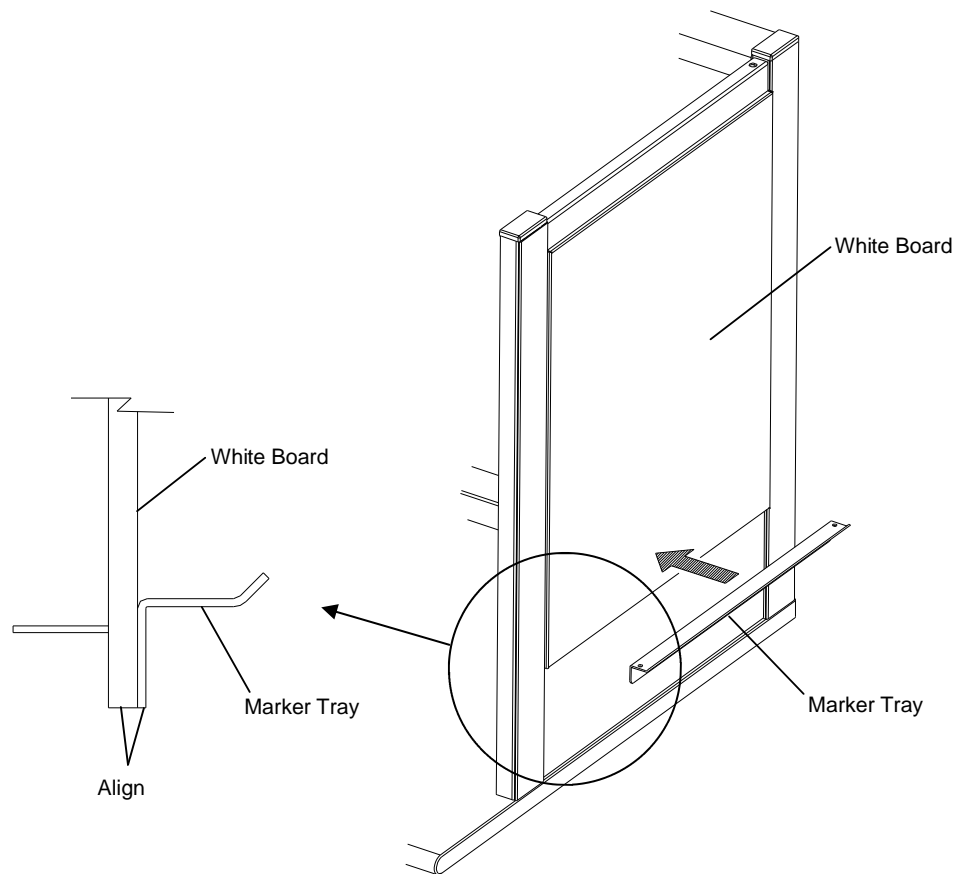

Figure 1.
2. Carefully align the bottom of the Marker Tray with the bottom of the White Board and center it side to side. See figure 1.